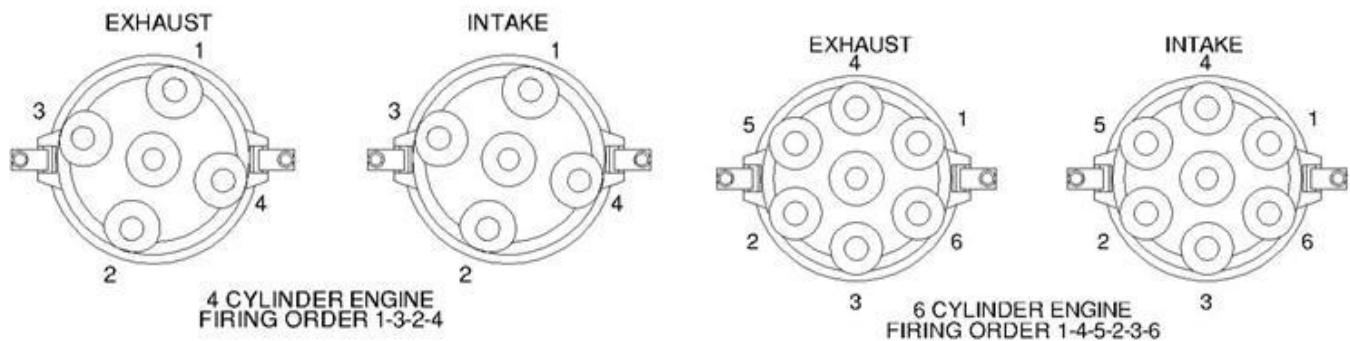

Figure 189 – Firing Order of Distributor Caps
- Note that in Figure 189 all distributors are shown looking from the prop drive end of the engine. “Exhaust” and “Intake” refer to the position of the spark plugs in the cylinder – on the exhaust or intake side of the head.